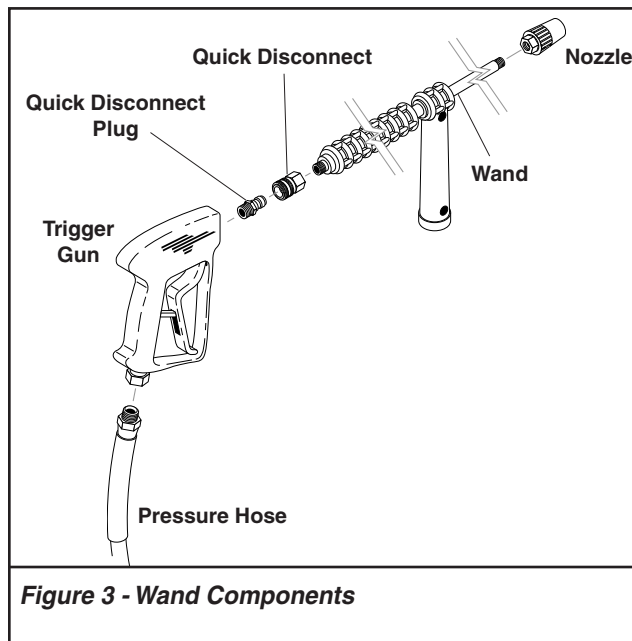

Figure 3 - Wand Components
3. Assemble wand components as shown in **Figure 3**. Connect pressure hose to trigger gun.